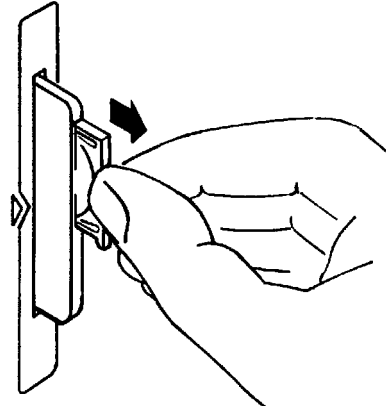

Figure 11 Replacing the Memory Card's Battery
1. Hold the memory card in the slot with one hand and pull the battery holder out with your other hand. (See figure 11 .)